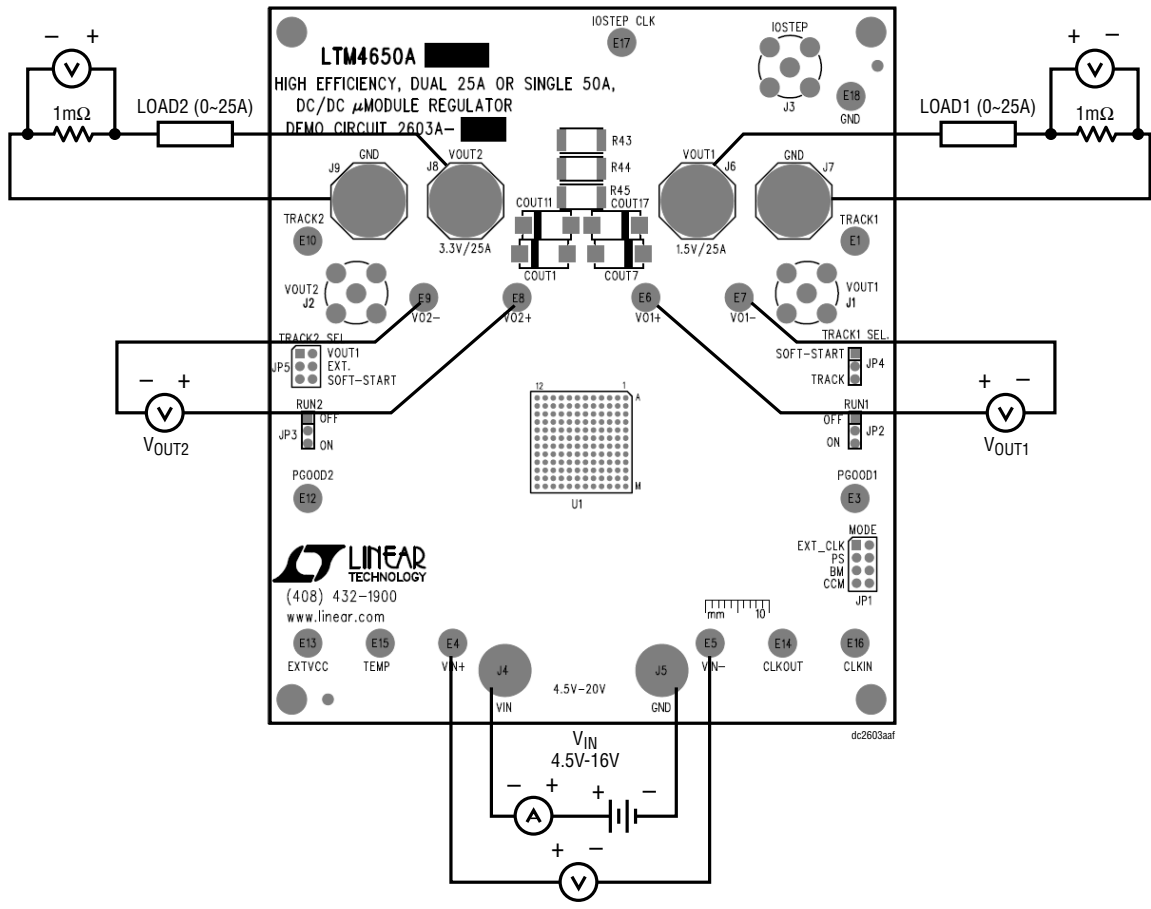

Figure 2. Test Setup of DC2603A-A
Demonstration circuit DC2603A-A is easy to set up to evaluate the performance of the LTM4650AEY. Please refer to Figure 2 for proper measurement setup and follow the procedure below:
- With power off, connect the input power supply, load and meters as shown in Figure 2. Preset the load to 0A and VIN supply to 12V.